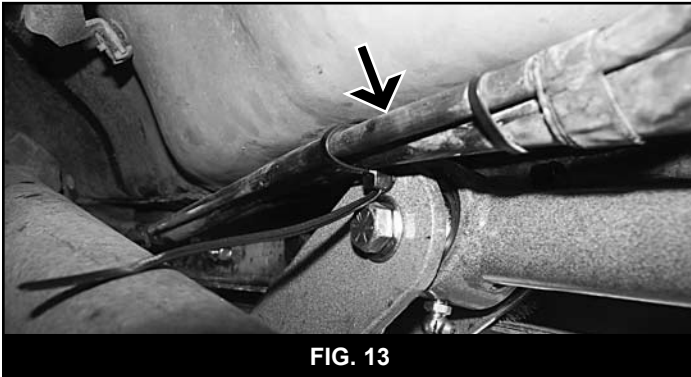

FIG. 13
31. Go back and check the clearance of all the lines running down the driver's side of the frame. Attach the plastic lines to the crossmember with the mount style wire tie (BP 715) by pushing the wire tie into the 1/4" hole in the upper control arm mount and securing the lines (Fig 13).